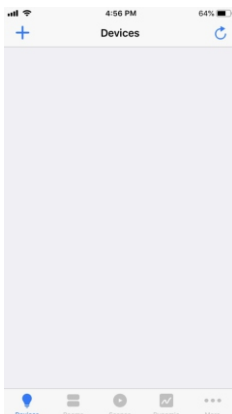
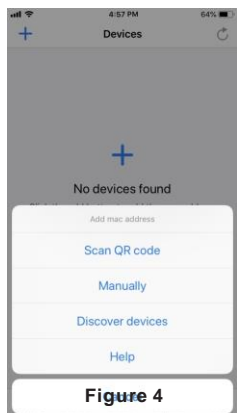
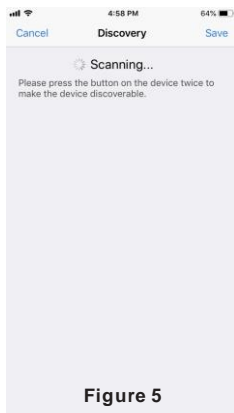

Figure 3
Figure 4
Figure 5
4. Run H2A App, tap add button “+” on the APP device, then choose “Discover devices” to discover device then **short press the “Reset” button on the dimmer twice** (or **reset power of the dimmer twice continuously**) to set the device into pairing to APP mode. (As shown in **Figure 3 & Figure 4 & Figure 5**)